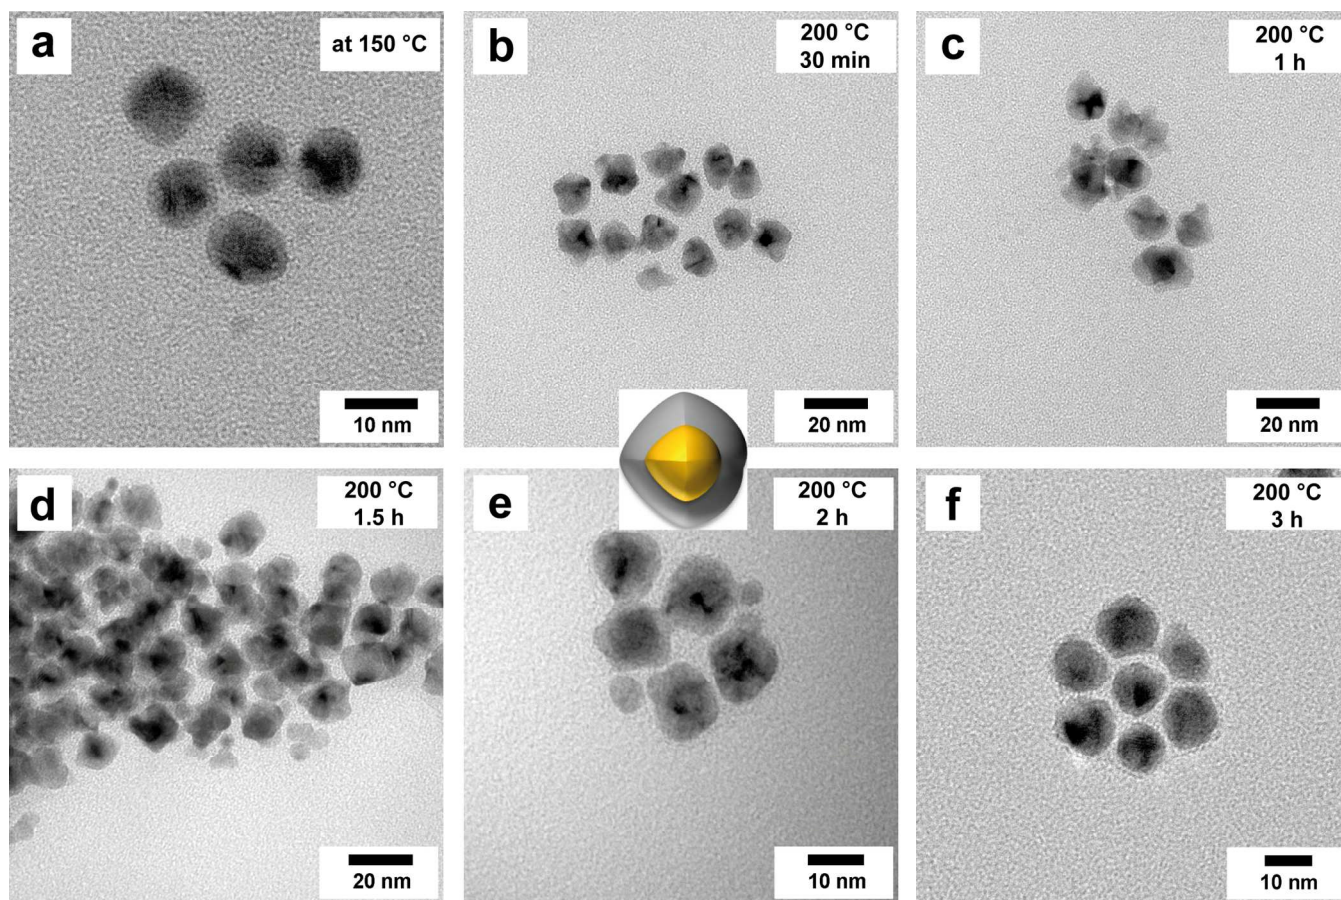

Figure S5. TEM images of ODT-Au@Pd NPs quenching studies at different reaction times and temperatures.
- **Figure S5:** TEM images of ODT-Au@Pd NPs quenching studies.